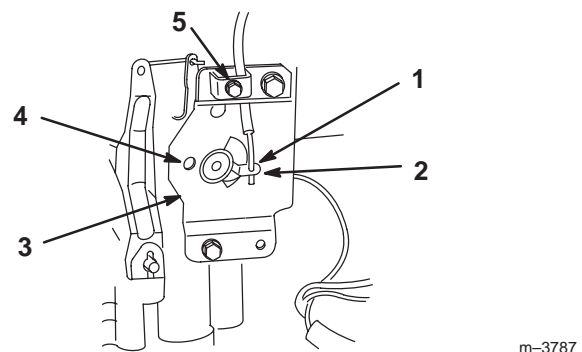

Figure 8
1. Place throttle control lever in fast position.(Fig. 8).
2. Hook wire Z-bend into hole of speed control lever (Fig. 8).
3. Loosen cable clamp screw allowing cable installation, but do not tighten (Fig. 8).
3. Replace the spring washer, dish down and locknut (Fig. 8).